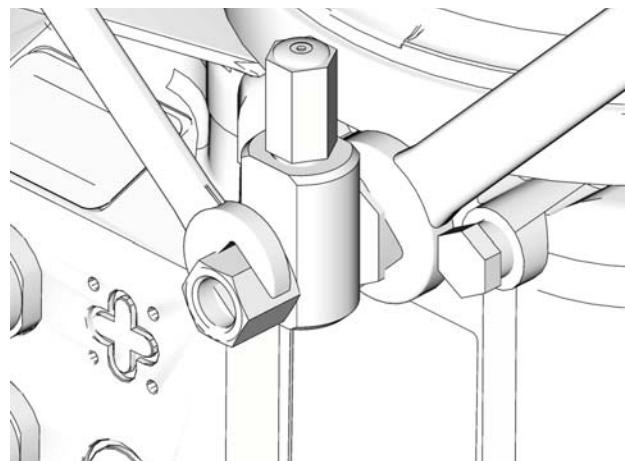

FIG. 18
- Loosen pump element fitting (FIG. 18).
- Tighten pump element fitting using two wrenches working in opposite directions (FIG. 18).